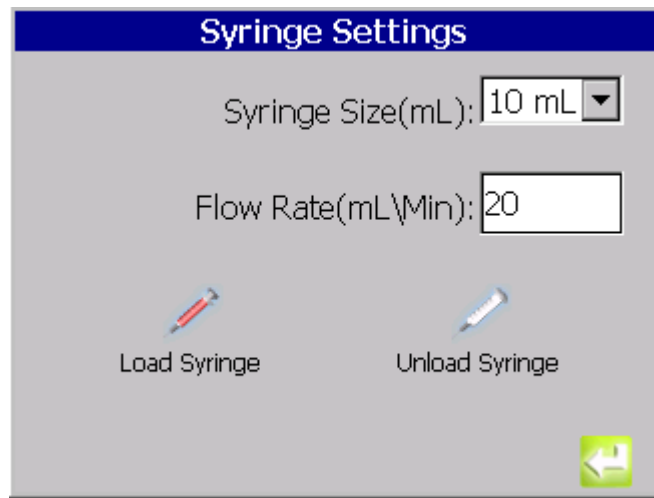

Fig 2-7 : Syringe Settings Screen
- 10) From the **Setup** screen, select the **Syringe** icon to invoke the **Syringe Settings** screen, shown in Figure 2-7.